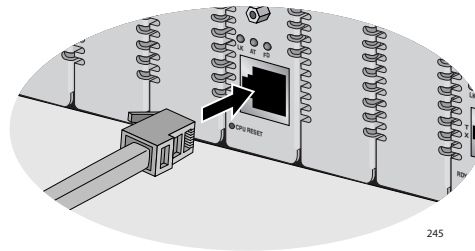

Figure 32. Connecting to the Twisted Pair Port
1. Connect the twisted pair cable to the twisted pair port, as shown in Figure 32.